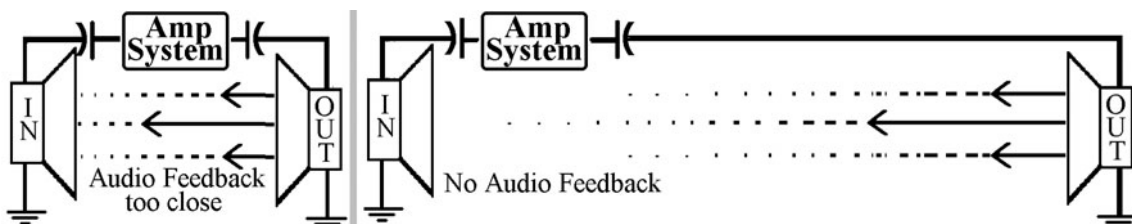

Figure L59-4
- c. As you increase the volume, the circuit might start screeching at you. Notch the gain backward until the screeching stops. The screeching is caused by feedback demonstrated in Figure L59-4. Sound